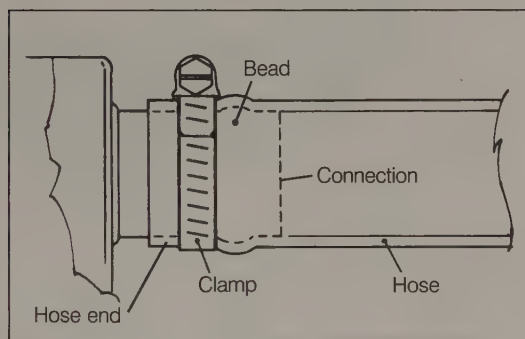

Fig. 4-5. Hose clamp correctly installed on hose end.
5. Position and tighten the clamps. Place the clamp as near the bead as possible and at least 4 mm ($\frac{5}{32}$ in.) from the hose end, as shown in Fig. 4-5. Tighten screw-type clamps enough to compress the hose firmly around the connections.